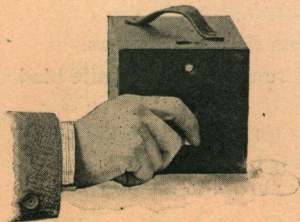

FIG 1
I. Set the shutter by turning the button underneath the lens to the right until it catches. See Fig. 1. The camera is now ready for the first snap shot. A safety wing prevents the light from passing through the lens during the act of setting the shutter.